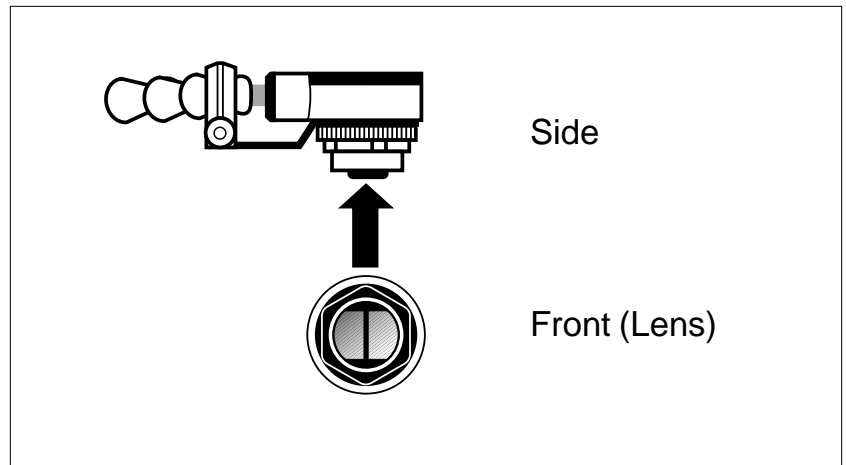

Figure 6-16. Cleaning Photo Sensor
3. Using a soft, dry cloth, wipe across the face of the photo sensor lens (Figure 6-16).